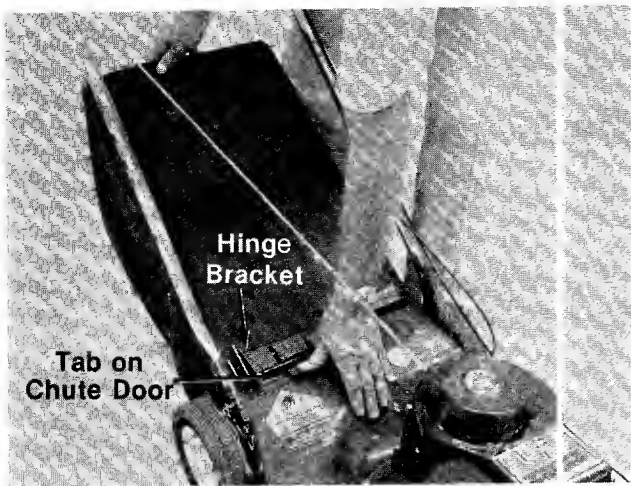

FIGURE 13.
3. Push the tab on the chute door. The grass catcher frame will snap into place, secured by the chute door. See figure 13.
← To remove the grass catcher, press the tab on the chute door and slip the grass catcher off the unit. See figure 13.